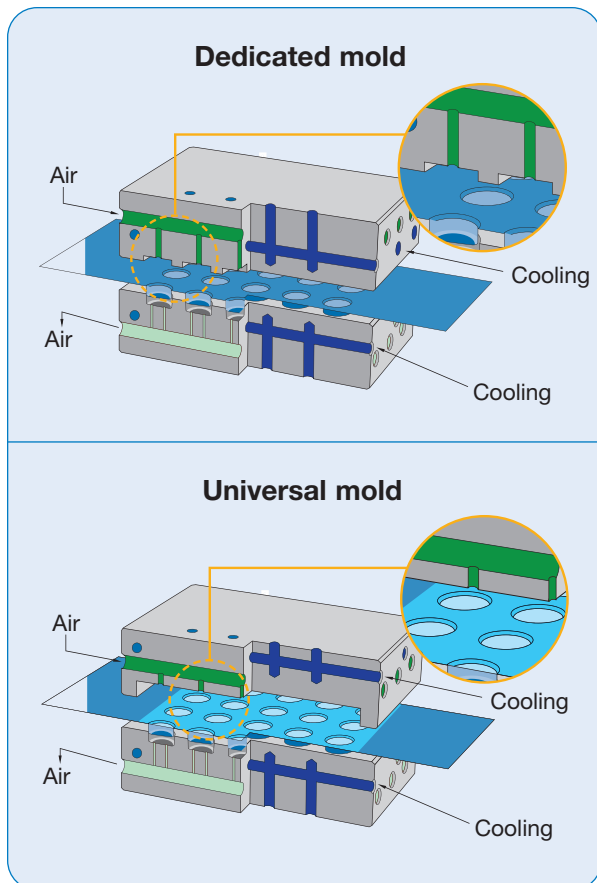

Figure 1
- For maximum flexibility, all thermoforming molds should be designed as dedicated molds¹ (Figure 1) and with features recommended for high-barrier materials. Dedicated molds provide more uniform thickness distribution and can be used successfully for both barrier and non-barrier materials.